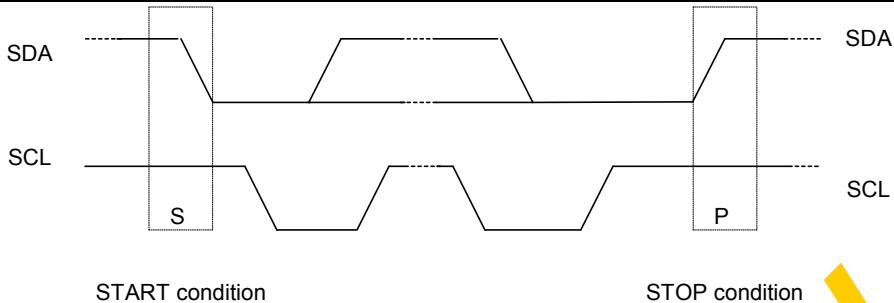

Figure 14 Start and Stop conditions
The CH1120 supports both read and write access. The R/W bit is part of the slave address. Before any data is transmitted on the I^2C -bus, the device that should respond is addressed first. Two 7-bit slave addresses (0111100 and 0111101) are reserved for the CH1120. The least significant bit of the slave address is set by connecting the input SA0 to either logic 0(GND) or 1(VDD). The I^2C -bus protocol is illustrated in Fig.14. The sequence is initiated with a START condition (S) from the I^2C -bus master that is followed by the slave address. All slaves with the corresponding address acknowledge in parallel, all the others will ignore the I^2C -bus transfer. After acknowledgement, one or more command words follow which define the status of the addressed slaves. A command word consists of a control byte, which defines Co and D/\bar{C} (note1), plus a data byte (see Fig.19). The last control byte is tagged with a cleared most significant bit, the continuation bit Co. After a control byte with a cleared Co-bit, only data bytes will follow. The state of the D/\bar{C} -bit defines whether the data-byte is interpreted as a command or as RAM-data. The control and data bytes are also acknowledged by all addressed slaves on the bus. After the last control byte, depending on the D/\bar{C} bit setting, either a series of display data bytes or command data bytes may follow. If the D/\bar{C} bit was set to '1', these display bytes are stored in the display RAM at the address specified by the data pointer. The data pointer is automatically updated and the data is directed to the intended CH1120 device. If the D/\bar{C} bit of the last control byte was set to '0', these command bytes will be decoded and the setting of the device will be changed according to the received commands. The acknowledgement after each byte is made only by the addressed slave. At the end of the transmission the I^2C -bus master issues a stop condition (P). If the R/W bit is set to one in the slave-address, the chip will output data immediately after the slave-address according to the D/\bar{C} bit, which was sent during the last write access. If no acknowledge is generated by the master after a byte, the driver stops transferring data to the master.